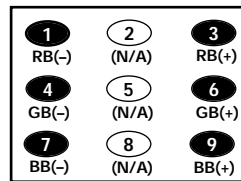

Figure 4. Remote Control Number keys' functions in Service Menu NO. 56
10. Raise each Bias Level with 3, 6, and 9 keys to obtain just visible white line. (See Figure 4.)